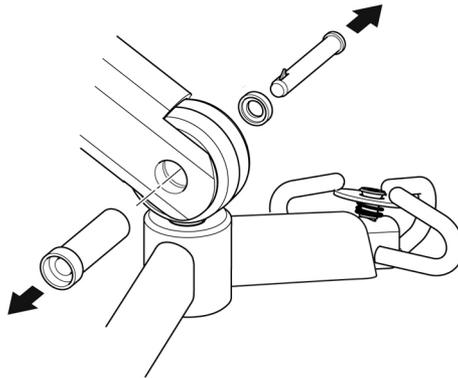

Fig. 2
5. Insert the quick release pin sleeve through the boom, plastic cap and cradle support bracket. (Fig. 2)
6. Insert the barbed quick release pin into the quick release sleeve from the opposite side until the barb 'clicks' indicating a secure connection (Fig. 2).